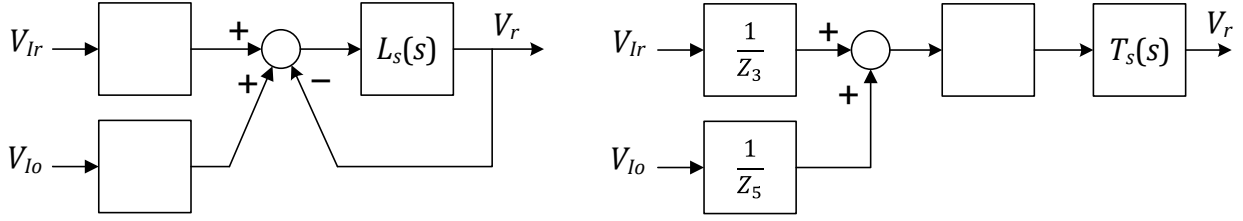

Figure 2: Equivalent block diagram, where $T_s(s) = \frac{L_s(s)}{1+L_s(s)}$
- Carry out block diagram algebra on the result of part (a) to complete the equivalent block diagrams in Figure 2.